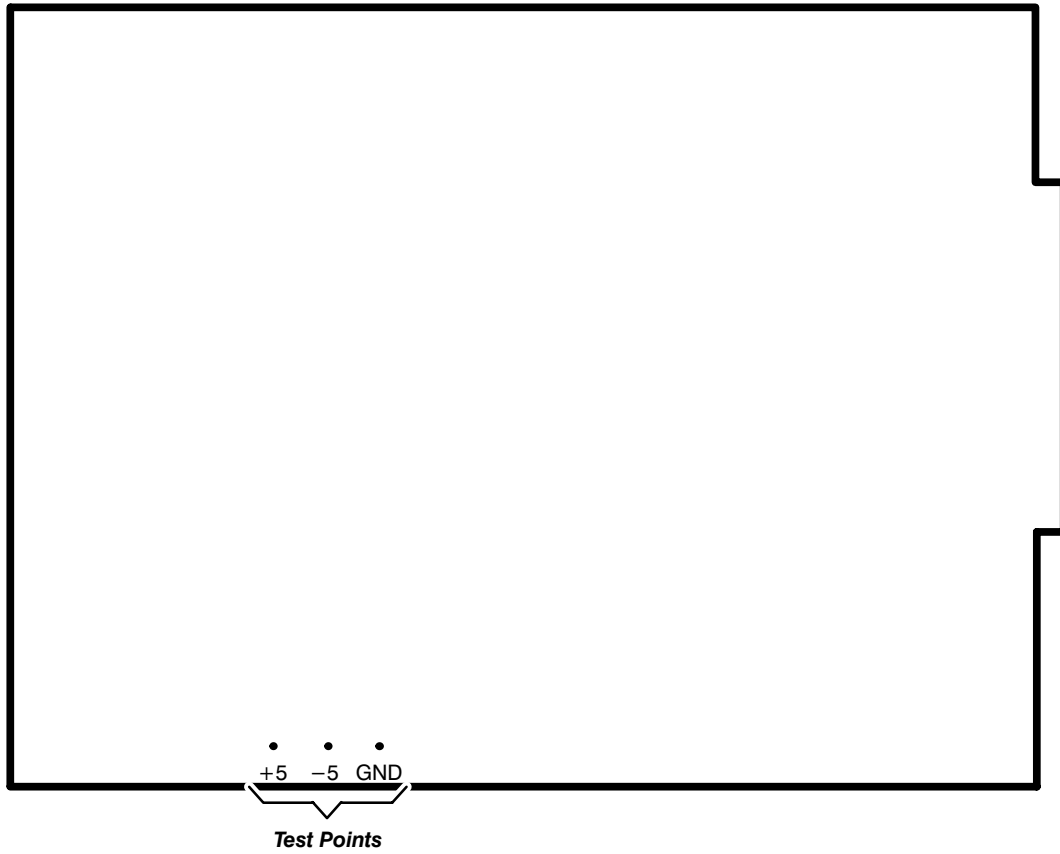

Figure 4-1: A26 M/F Acquisition Interconnect Board Test Point Locations
This procedure checks that the vertical reference voltages are at +5 V and –5 V at J63C on the A26 M/F Acquisition Interconnect board (see Figure 4-1).
- Step 2:** Connect the Digital Voltmeter to the +5 V reference point and GND on the A26 Mainframe (M/F) Acquisition Interconnect board. See Figure 4-1.